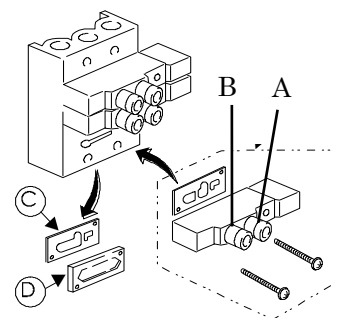

Fig.4
- (1) The 0 to the air pressure by turning the pressure adjustment knob of the filter regulator, and remove any residual pressure.
- (2) Remove the packing and C blanking plate D from the solenoid valve as shown in Figure 4, and install a solenoid valve attached. At this time, attach the packing included with this in order to prevent air leakage.